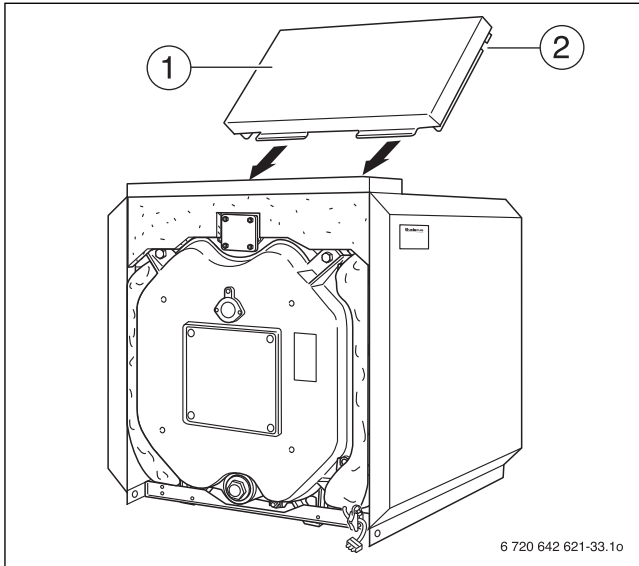

Fig. 39 Fitting the rear cover
- Place rear cover (Fig. 39, [1]) between the side panels so the cut-out (Fig. 39, [2]) fits over the tie bar.